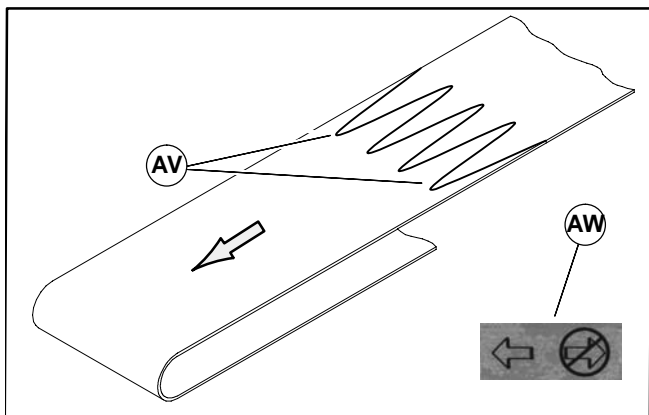

Figure 27
1. Orient belt so splice leading fingers (AV of Figure 27) point in the direction of belt travel as identified by the conveyor directional label (AW).
2. Orient belt so splice leading fingers (AV of Figure 27) point in the direction of belt travel as identified by the conveyor directional label (AW).